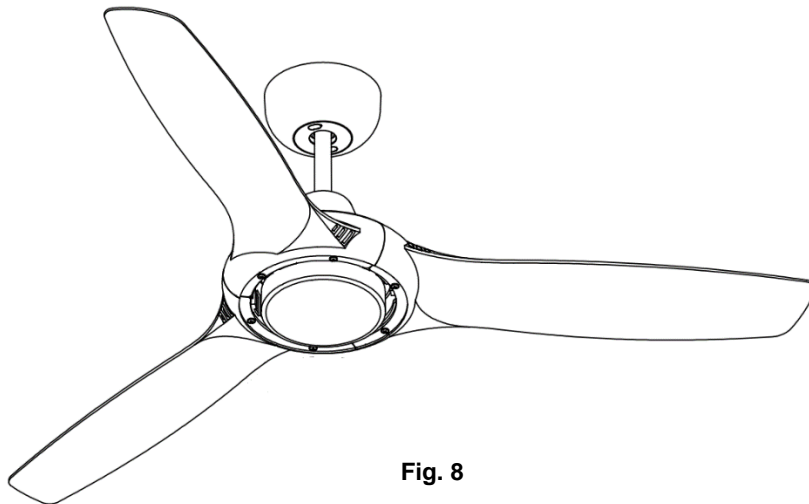

Fig. 8
4. Repeat this process for the remaining blades. (Fig. 8)